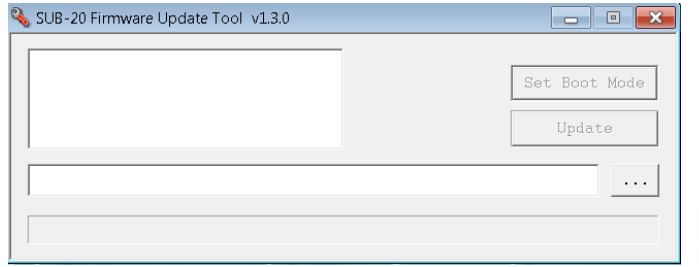

Figure 18. GUI for Updating the SUB-20 Firmware
1. Double click the SUB-20 firmware updater.exe file installed on the PC after the SUB-20 adapter is connected to open the graphical user interface (GUI) shown in Figure 18.
2. For Windows® 10, Figure 18 may open automatically to update the SUB-20 adapter without having to double click the **SUB-20 firmware updater.exe** file. Click the **Update** button. For Windows 7 and earlier versions, users may not need to update the SUB-20 adapter.